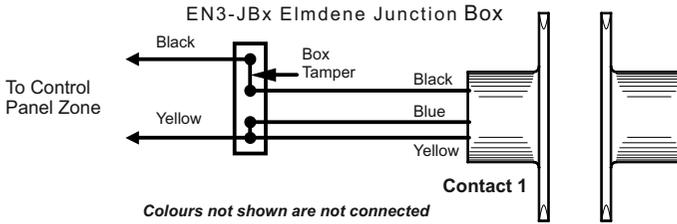

Figure 6
- Fully supervised loop - Double leaf doors - Parallel mode connection - Figure 6